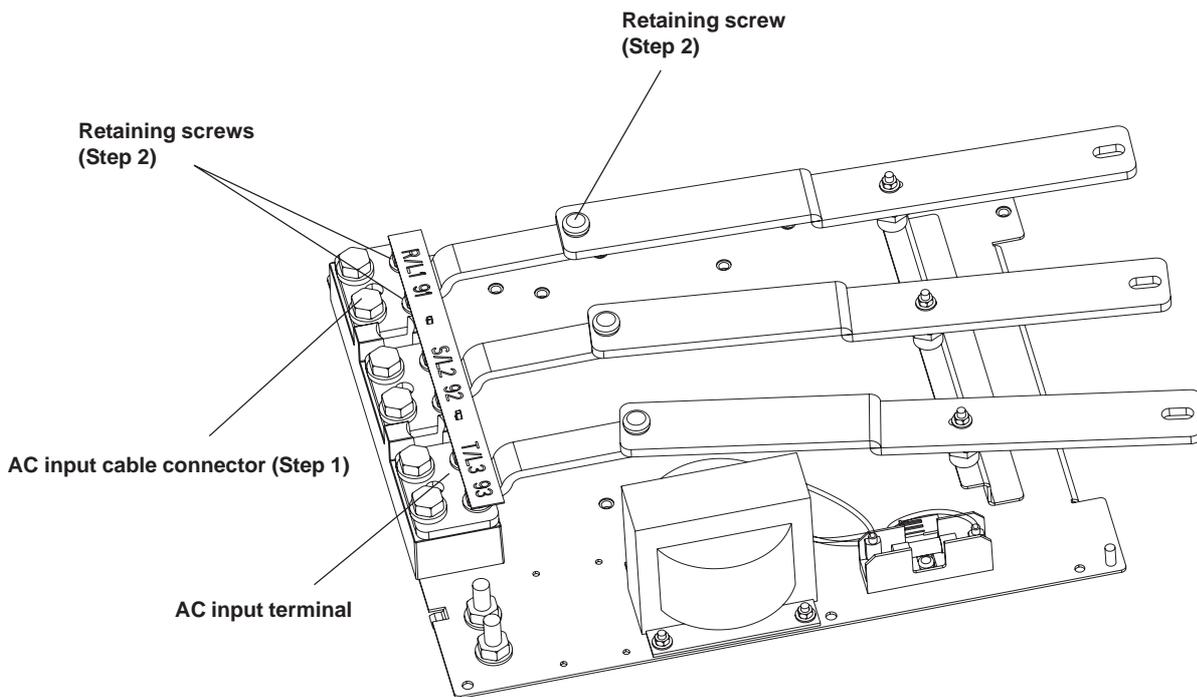

Figure 6-14. AC Input Terminals
- 8. Remove 12 retaining screws (6 on each module) on upper portion of IGBT modules. These screws also attach the snubber capacitors to the IGBT modules (see Figure 6-14 3 of 3). Remove the snubber capacitors (not shown).